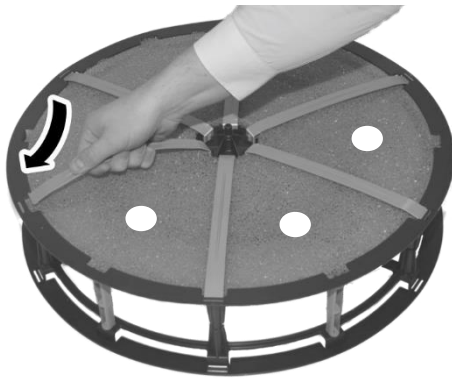

Fig. 26: Fastening the filter holder and reinserting the fastening pins
9. ➔ Fold down the filter brackets and lock them into place. Reinsert the previously removed fixing pins. (Fig. 26).